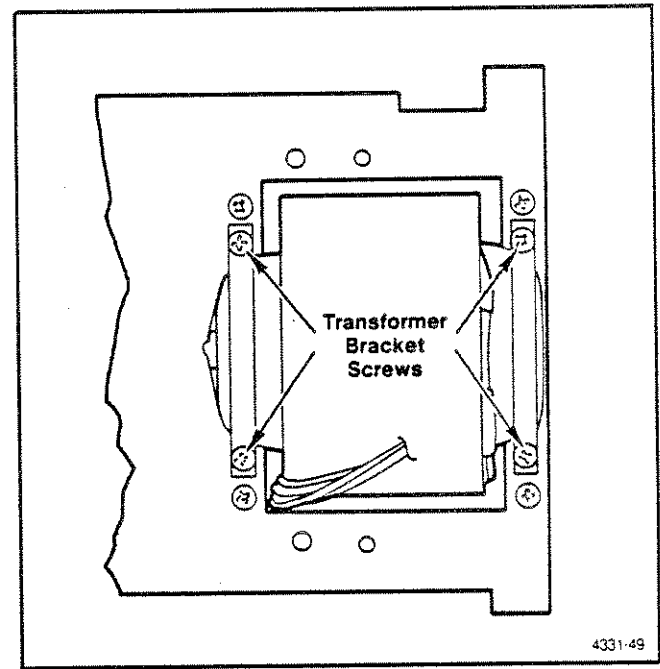

Fig. 7-5. Transformer and bracket (partial pictorial).
- c. Remove the stand-off hex screws (4).
- f. Remove the power transistor connectors (2). Note their locations, for re-assembly; the front cable connects to the front transistor.
e. Remove the transformer bracket screws (4), as shown in Fig. 7-5.